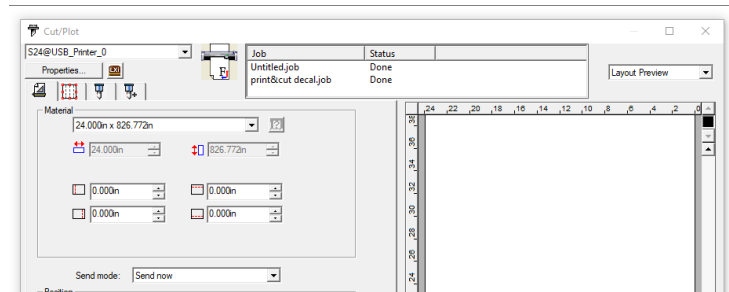

Fig. 5.8
3. Check the settings in your LXi Production Manager and make sure the send mode window is set to Send Now (Fig 5.8). If the setting is File or Hold in List, the data won't be sent from your computer to the vinyl cutter. If it is set to Hold in List, you will find the jobs holding in the cutter queue. Click on the job in the queue and use the File/Cut Plot command or click the Send icon.